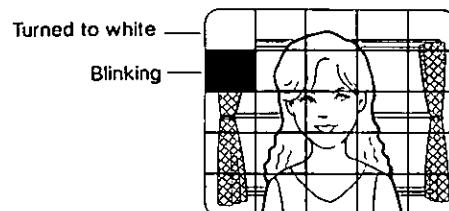

Fig. 62
- To mask other areas, move the cursor to the desired area by using the Up Button (AGC), Down Button (AWC SET), Left Button (WHT BAL) or Right Button (GAIN UP). The previous masked area then stops blinking and turns to white as shown in Fig. 62.